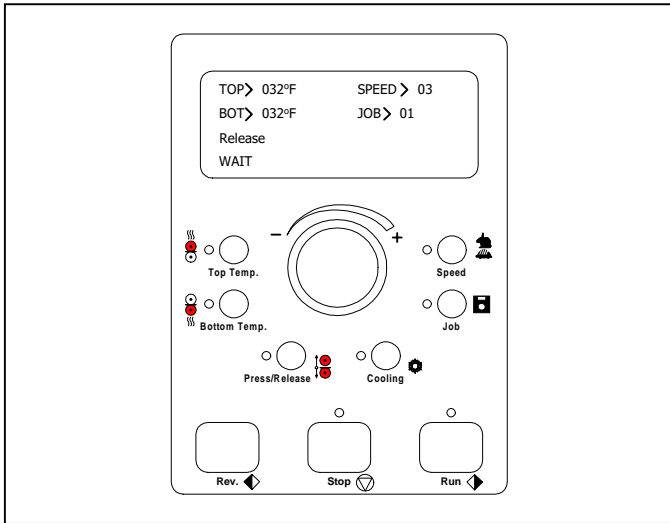

Fig. 7
Displays the current main roller position. In figure 7, the roller is shown in the "Release" position. Refer to Roller Handle for more information.
C. CONTROL PANEL: (Figure 7)